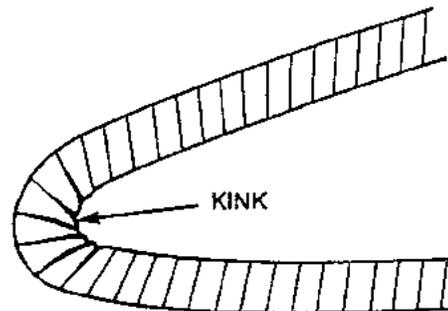

Figure 5-3 – Repair Necessary. Damage Due to Bending Beyond Minimum Bend Radius
- c. The tubing has been bent beyond its minimum bend radius so that a crease or kink remains. (Figure 5-3)